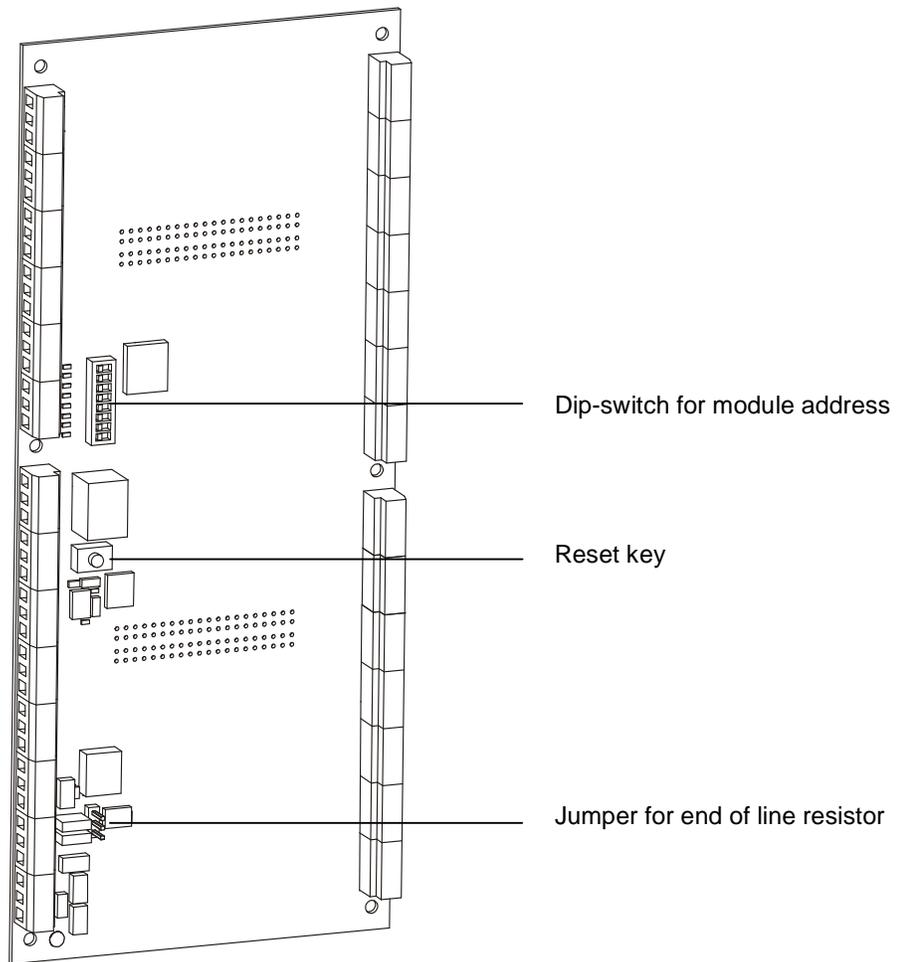

Fig.1
5. Connect the jumper depending on if the FTM1811 is placed the end of FR18-BUS(CAN-Bus) line (refer to Fig.1).